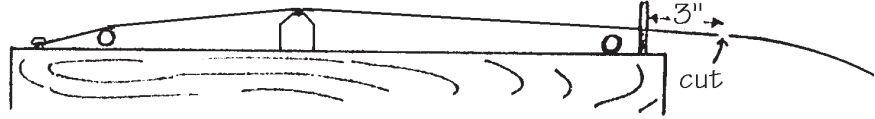

FIG. 20
- ___29. Trim one of the bottom loop-end strings about 2-3 inches longer than necessary to reach the first tuning pin on the right side of the instrument. (fig. 20)